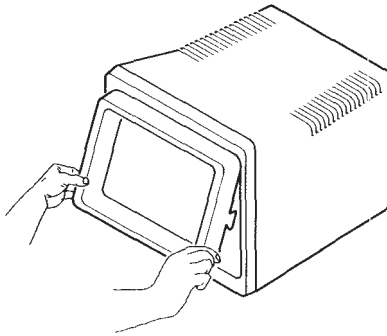

Figure 10-1.
2. Tilt your monitor screen up as far as it goes. Grasp the inner plastic frame by the lower corners, then pull it up and toward you in one even motion (Figure 10-1).